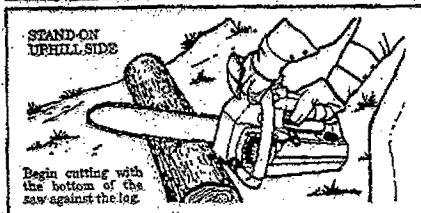

Figure 17
- Begin cutting with the saw frame against the log. Figure 17.